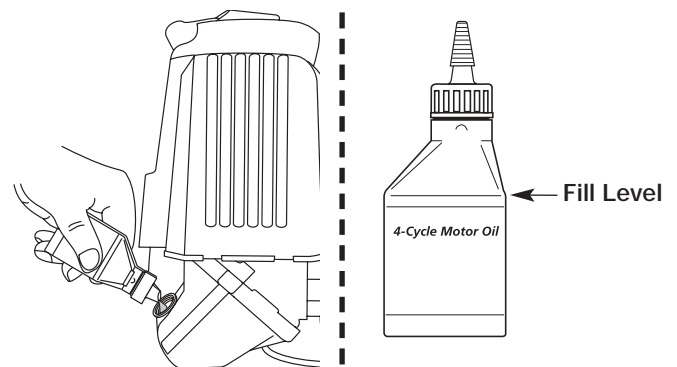

Fig. 18
**NOTE:** Use the bottle and spout saved from initial use to measure the correct amount of oil. Pour fresh fuel into the bottle and fill it to the top of the label. The top of the label on the bottle measures approximately 3.4 ounces (100 ml). Check the level with the dipstick. If the level is low, add a small amount of oil and recheck. Do not overfill (Fig. 18).
8. Swing the cover to the left until the tab on the air filter cover snaps into place in the slot on the left side of the air filter housing (Fig. 18).